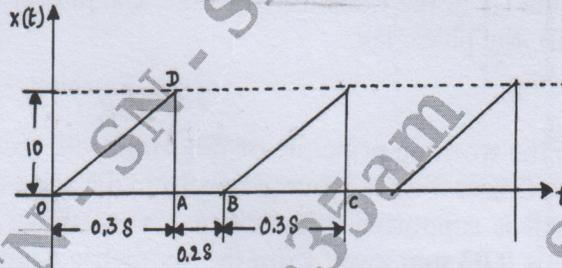

Fig. Q2 (b)
- b. Find the Fourier series for the curve as shown in Fig. Q2 (b). (10 Marks)